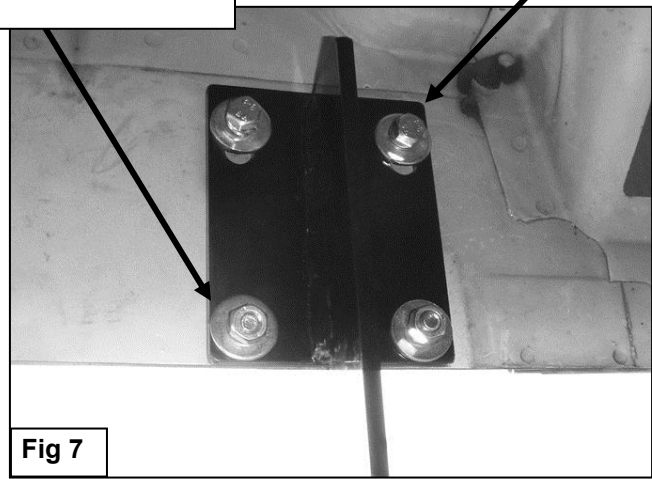

Fig 7
4. Move to the center, (3rd), mounting location along the pinch weld. Select (2) 10mm Clip Nuts. Insert the Clip Nuts into the rectangular opening and over the round holes as described in **Step 3, (Figures 5 & 6)**. Select (1) driver side Bracket. Attach the Bracket to the Clip Nuts with (2) 10mm Hex Bolts, (2) 10mm Lock Washers and (2) 10mm Flat Washers. Attach the Bracket to the pinch weld with (2) 10mm Hex Bolts, (4) 10mm Flat Washers, (2) 10mm Lock Washers and (2) 10mm Hex Nuts, (**Figure 7**).